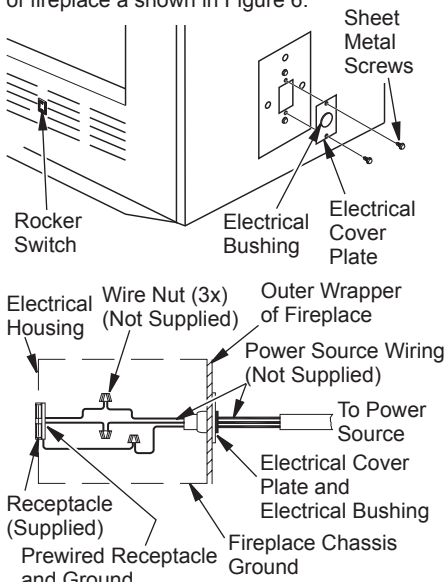

Figure 6 - Fan Switch-Electrical Bushing
Fan or blower kit is optional with this fireplace (for circulating models only). Use of blowers or fans other than those manufactured by FMI PRODUCTS, LLC voids warranty. Fan is operated by pressing rocker switch (see Figure 6) in lower right hand corner of fireplace face. Blower is operated by turning control knob (not shown).
Fan/blower kit electrical connections are made through electrical cover plate on side of fireplace a shown in Figure 6.
1. Remove electrical cover plate with bushing from fireplace by removing 2 sheet metal screws as shown in Figure 6.
3. Slide all wiring connections in electrical housing as shown in Figure 6.